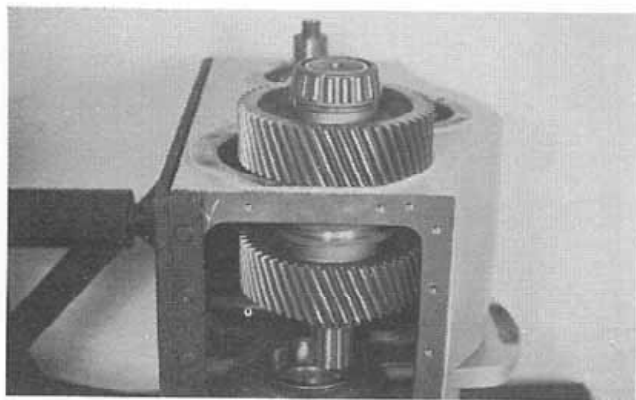

Figure 7:
6. The input shaft/gear subassembly may be removed from the rear of the housing (Fig. 7).